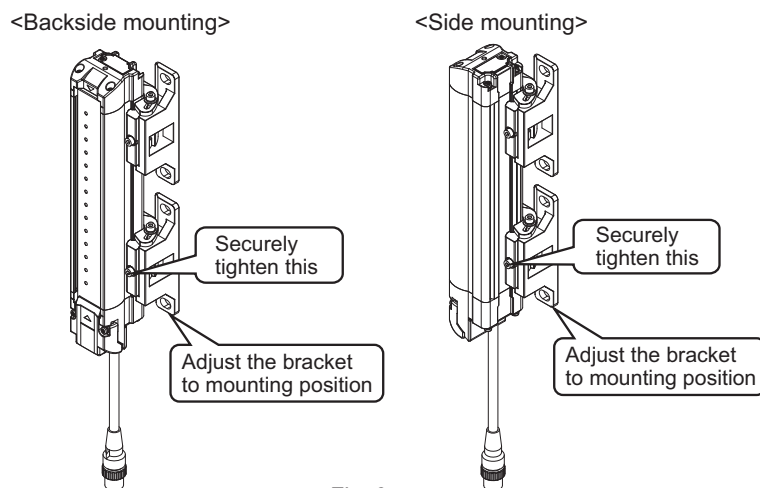

Fig. 3
4. Adjust the Standard Adjustable Bracket to the mounting position of the wall surface. Securely tighten the Screw (2) to fix the Standard Adjustable Bracket to the housing of the F3SG-R. The recommended torque to tighten the Screw (2) is 2.0 N•m. (Fig. 3)